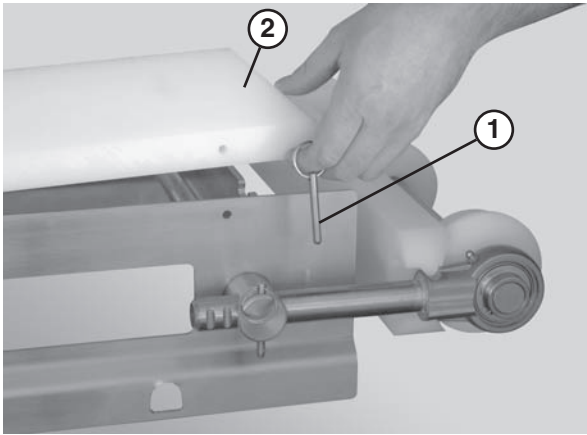

Figure 48
1. Remove the pull pins (**Figure 48, item 1**) that connect the guide (**Figure 48, item 2**) to the frame.